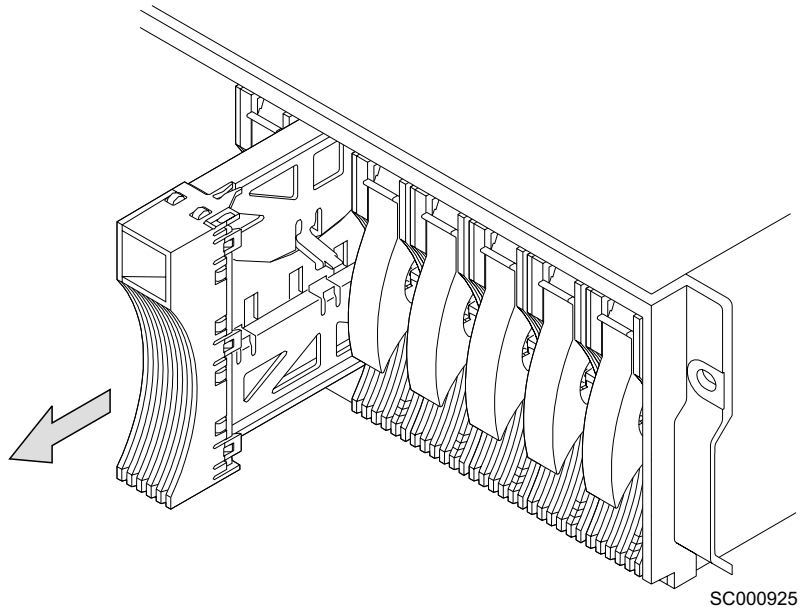

Figure 24. Removing a dummy disk drive module
6. You might also want to remove the dummy disk drive modules. See Figure 24. A dummy disk drive module has a simple handle. There is no latch to pull up.